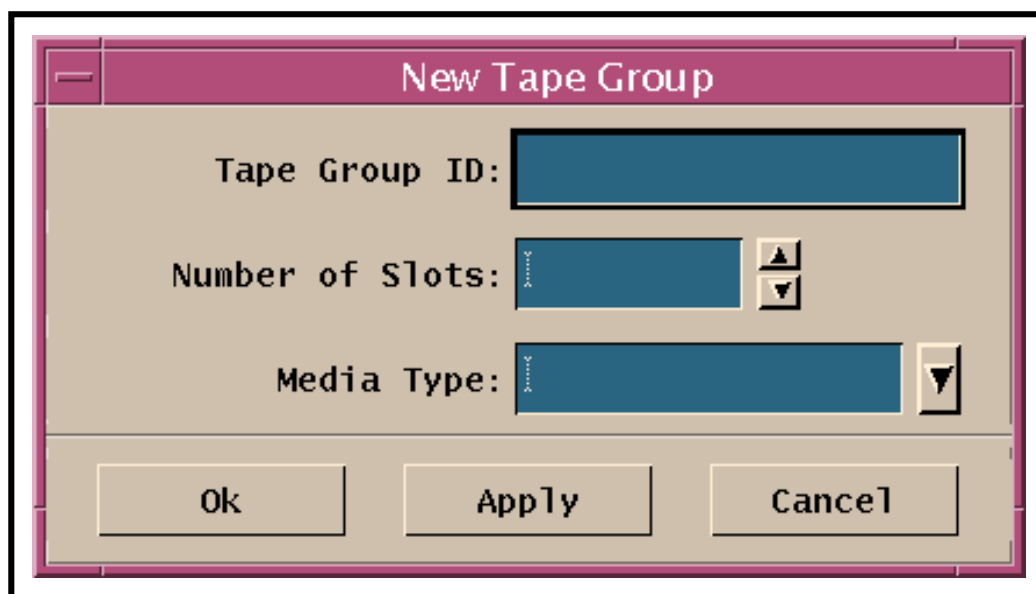

Figure 21. New Tape Group Window (Storage Management Control GUI)
- The **New Tape Group** window (Figure 21) is displayed.